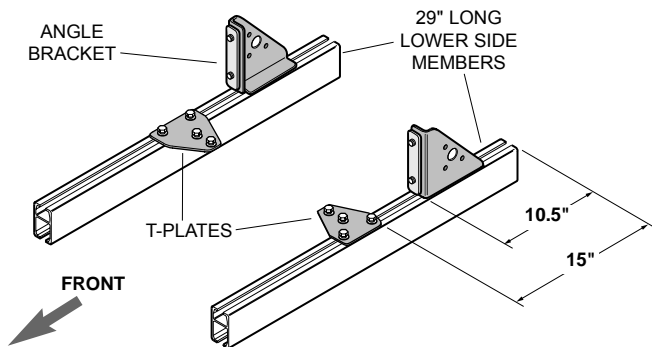

Figure 2.
2. Locate two angle brackets and two T-plates. Place two 29" aluminum frame members on floor with large slot down. Affix angle brackets and T-plates to side members by sliding track nuts into aluminum rails. Position as shown in Figure 2, and tighten track nuts to secure.